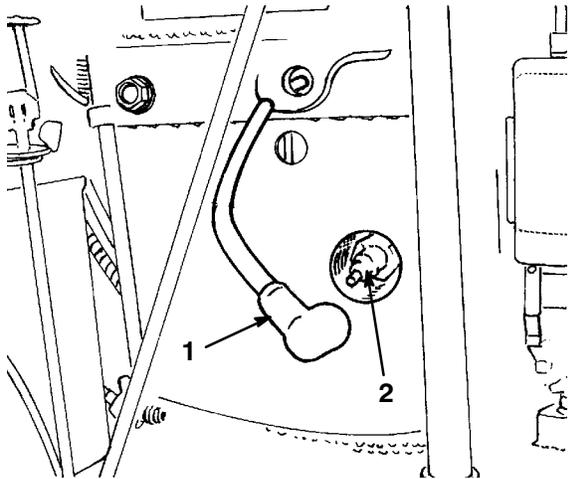

Figure 9
1. Remove the wire from the spark plug (Fig. 9).
2. Pull the wire off the spark plug (Fig. 9).
3. Push the wire(s) onto the spark plug(s) (Fig. 9).